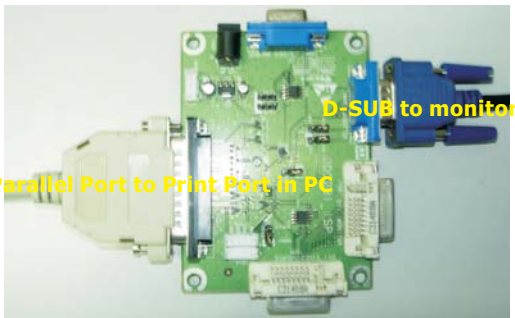

Fig. 1
4. DDC2BI\_ISP TOOL (3138 106 10396) as shown in Fig. 1